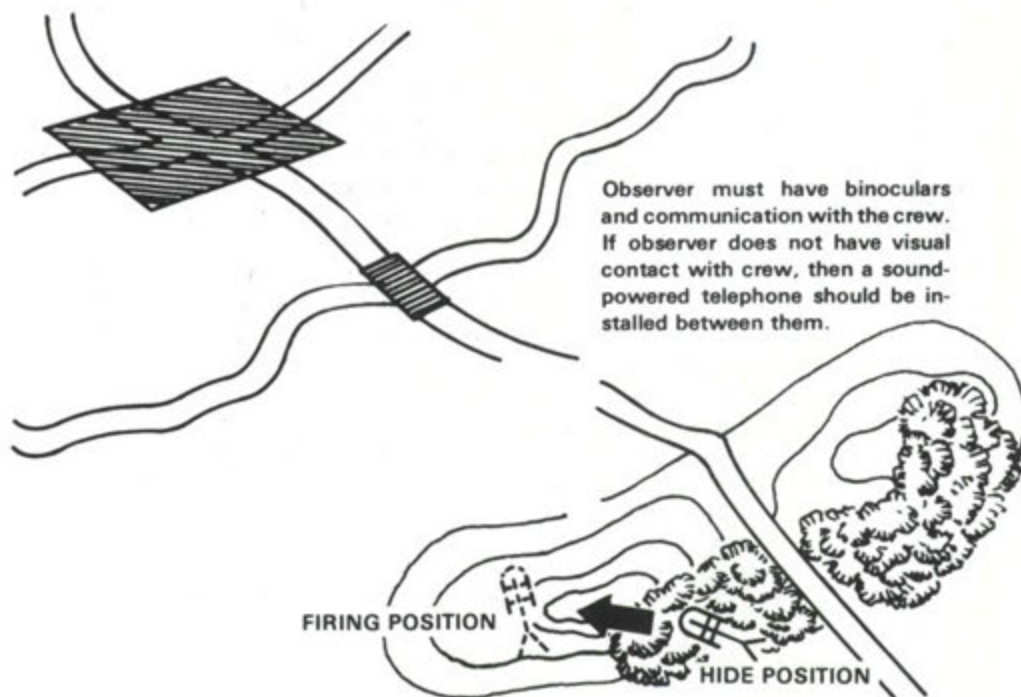

Figure 4.
(2) In the event that a hulldown position is not available, use a hide position (figure 4).